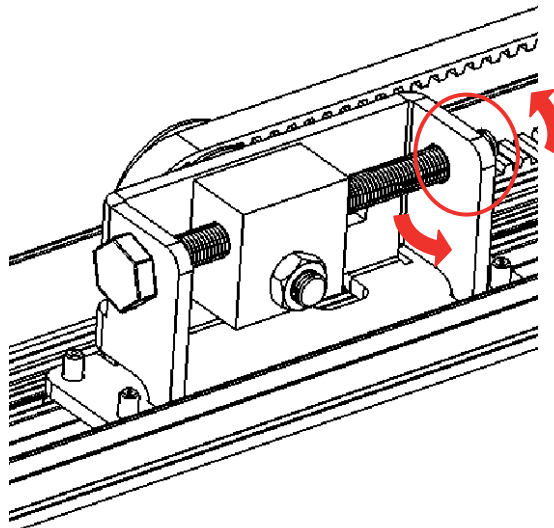

Figure 25: Tighten the locking nut.
7. Tighten the locking nut (Figure 25).